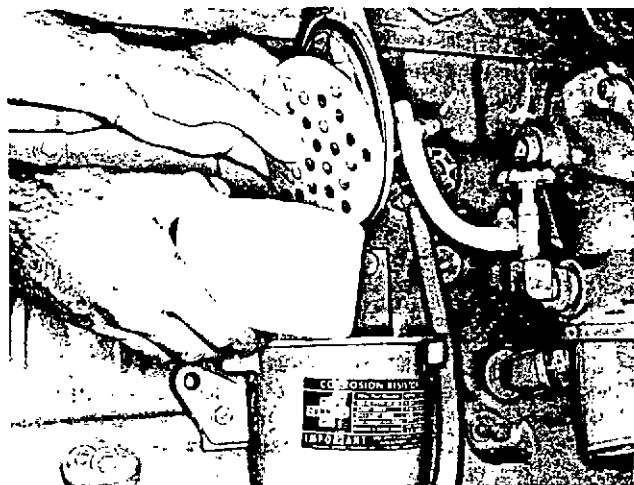

Fig. 5-29, N11901. Changing corrosion resistor element
If Cummins Corrosion Resistor is used, change element, Fig. 5-29, and run engine four to six hours; then, check coolant again; in extreme cases it may be necessary to change element a second time. However, the latter condition may be due to larger coolant system than corrosion resistor was designed to treat; note reference on resistor label.
Change corrosion resistor element, Fig. 5-29, at each "B" Check unless facilities are available for testing. See "Check Engine Coolant". Change element when concentration
2. Remove cover capscrews and cover, Fig. 5-29.